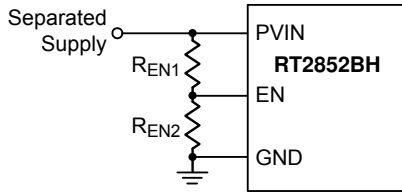
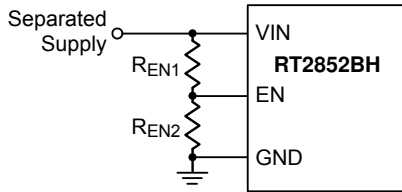
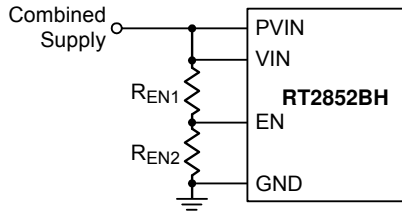

Figure 4. Resistor Divider for PVIN UVLO Setting
Figure 5. Resistor Divider for VIN UVLO Setting,
Figure 6. Resistor Divider for PVIN and VIN UVLO Setting
The EN pin can also be applied to adjust its Under-Voltage Lockout (UVLO) threshold with two external resistors divider from the both input VIN and PVIN pins used together or separately, and the application structures can refer to Figure 4, Figure 5, and Figure 6.
Under above application structures, the adjustable UVLO function of EN pin allows to achieve a secondary UVLO on PVIN pin, a higher UVLO on VIN pin or even a common UVLO on both VIN and PVIN pins. For example, if the EN pin is configured as Figure 5 and the output voltage is set to a higher value 10V. The device may shut down after soft-start sequence is over, and the reason for the result is that the VOUT is still lower than its set target during the VIN rising period even though VIN has already risen to its internal UVLO threshold 4V. To prevent this situation, an adjustable UVLO threshold from EN pin is useful to avoid such high output transfer condition. The exact UVLO thresholds can be calculated by Equation (3). The setting VOUT is 10V and VIN is from 0V to 18V. When VIN is higher than 12V, the device is triggered to enable the converter. Assume REN1 = 56kΩ. Then,